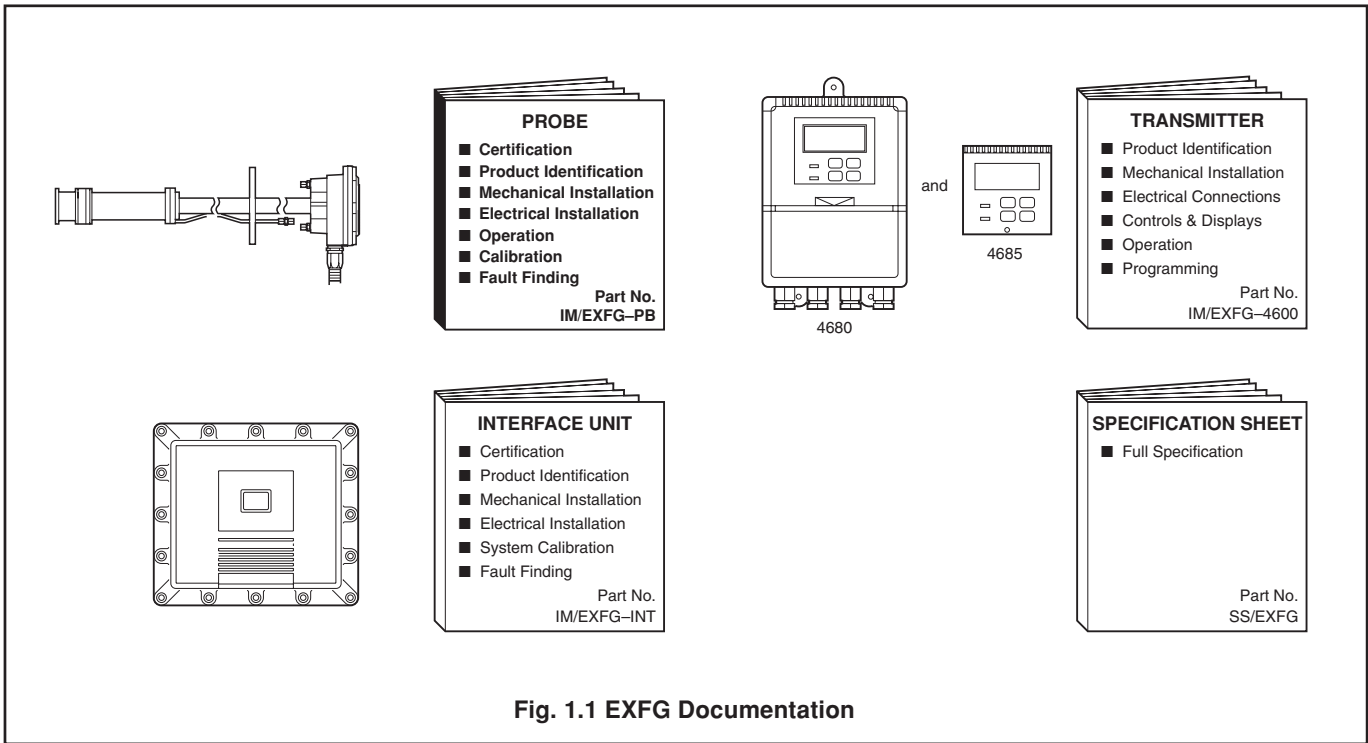

Fig. 1.1 EXFG Documentation
1.1 Documentation – Fig 1.1
Documentation for the EXFG Oxygen Analyzer System is shown in Fig. 1.1.